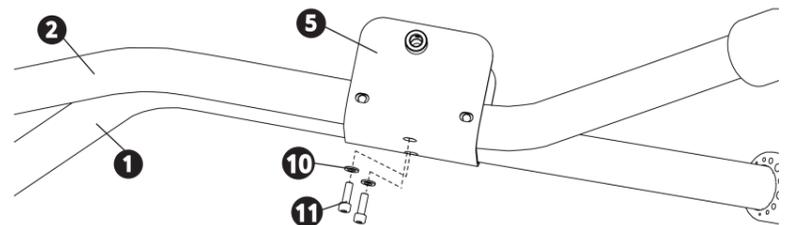

Figure 3. Seat bracket
1. Have your assistant lift the back of the side frames. Align the left and right side frames in the middle. Slide the 5 seat bracket up from the bottom to encase the frames. Align to holes on bottom of frames and secure with 2 11 M8 x 25 mm SHCS and 2 10 9 mm flat washers (Figure 3). Hand-tighten only.